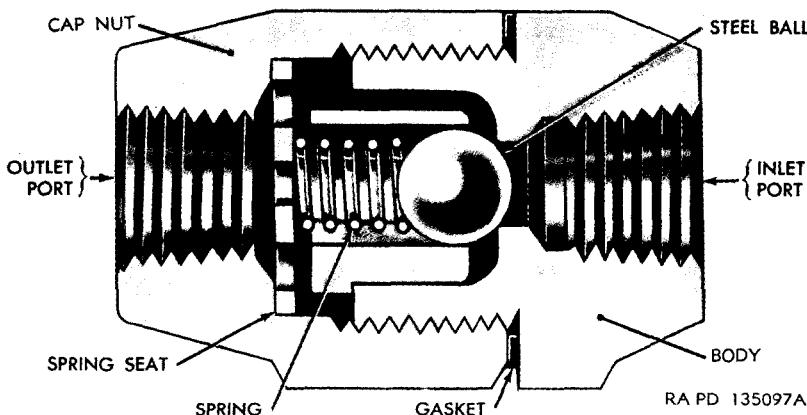

Figure 175. Sectional view—ball type single check valve.
The single check valve (figs. 175 and 176) is a small device placed in an air line when it is important to allow air passage in one direction and prevent passage in reverse direction. They are most frequently used in the front emergency line on trucks or tractors having front hose connections. Check valves contain a spring-loaded ball or disk which normally seats against air inlet in one end of inner chamber. Air flow in normal direction raises the check from seat and flow is unobstructed. Flow in reverse direction is prevented by the seating of ball or disk by spring load assisted by air pressure.
a. *Ball Type* (fig. 175). Unscrew cap nut from body and discard gasket. Remove steel ball, spring, and spring seat from body and cap nut.
a. *Ball Type* (fig. 175). Place spring seat in cap nut and position steel ball and spring in body. Install a new gasket on body and screw cap nut onto body. Tighten securely.
the ball can be seen (fig. 175) or in the direction of the arrow cast on the body of the disk type valve. Air must flow through check valve freely.